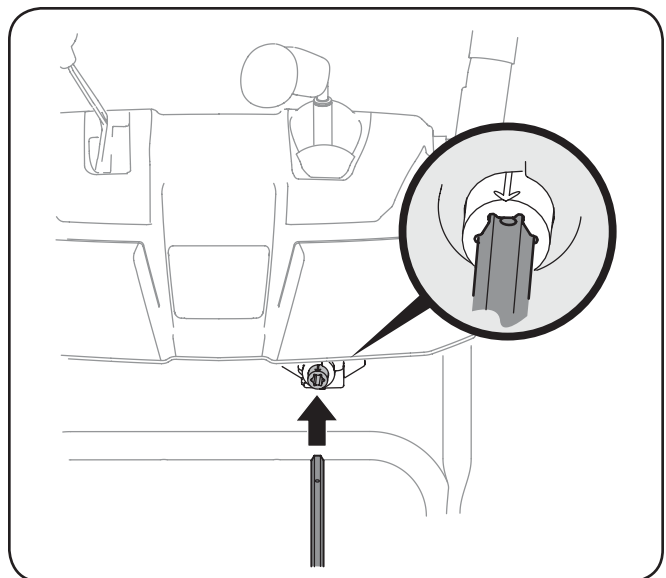

Figure 3-7
- Insert the hex rod into the pinion gear below the joystick. Make sure to line up the hole in the hex rod with the arrow on the pinion gear. See Fig. 3-7.